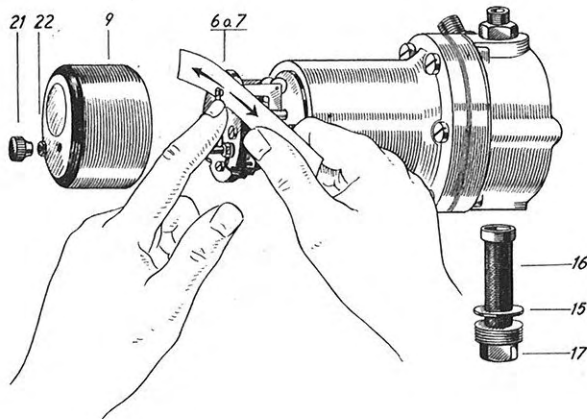

Fig. 8. Inspection of breaker points, fuel pump.
1. Loosen nut 21 and remove live cable, Fig. 8.